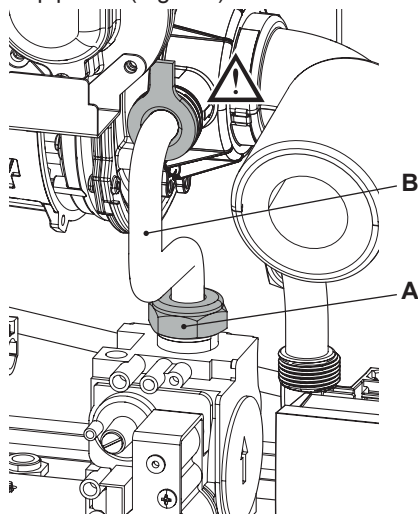

Fig. 9.1
- Unscrew the connector "A" and remove the pipe "B" (Fig. 9.1).